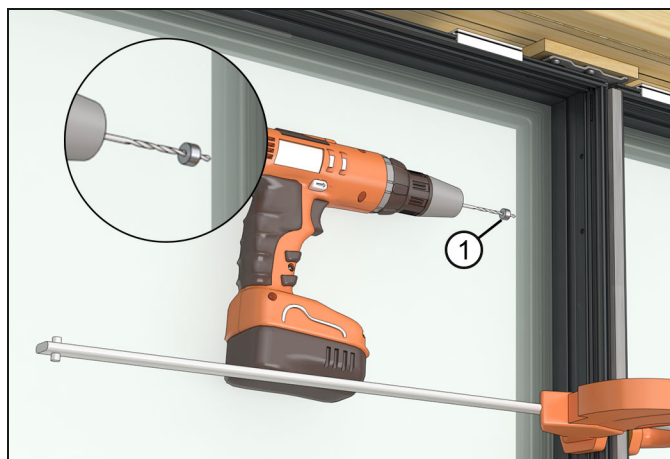

Figure 34
7. Using a drill with a stop collar set to 1", use the installation holes as a guide and bore into the steel with a #23 drill bit. See Figure 34.